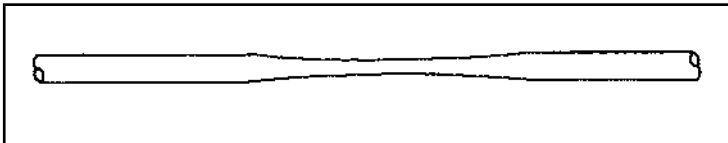

Figure 4
- "Necking", a stretched cable sheath. See Figure 4.